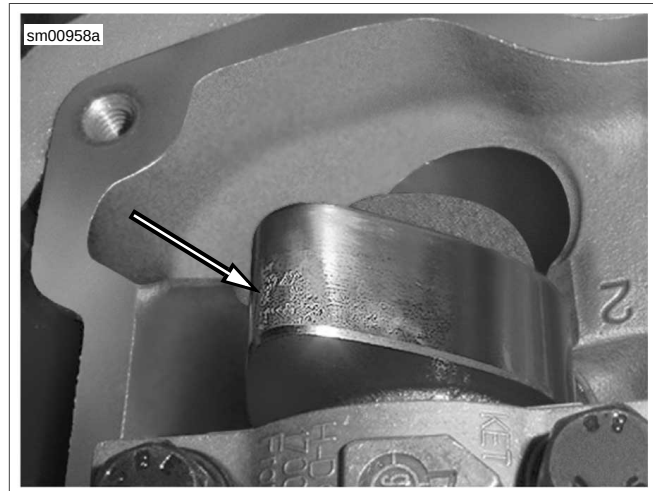

Figure 1-54. Camshaft Toe Spalling (acceptable)
- See Figure 1-54. This figure shows camshaft spalling within acceptable specification on the toe of the camshaft lobe.